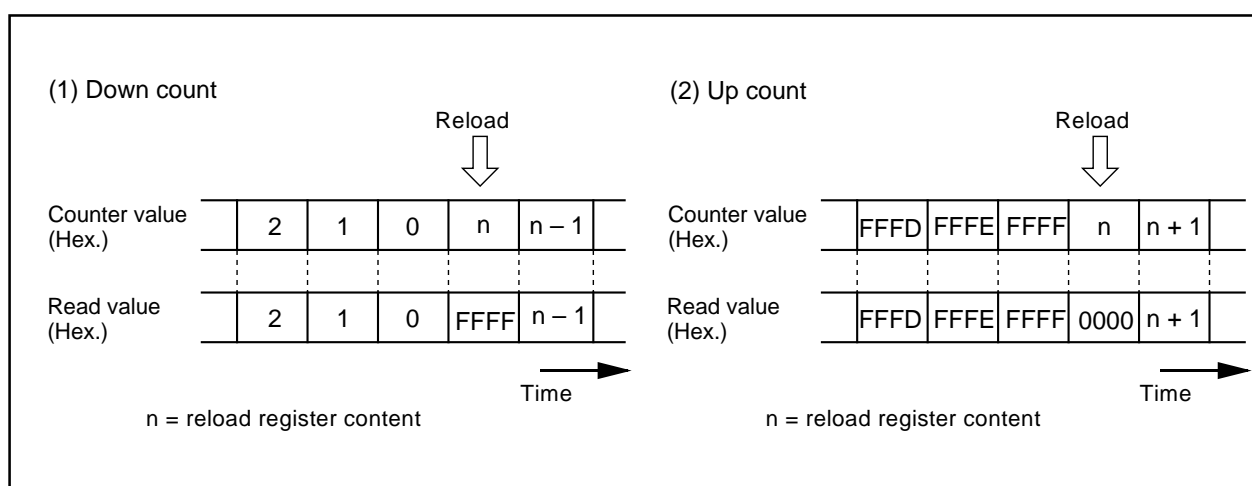

Figure 2.2.29. Reading timer A0 register
- (1) To clear reset, the count start flag is set to "0". Set a value in the timer A0 register, then set the flag to "1".
- (2) Reading the timer A0 register while a count is in progress allows reading, with arbitrary timing, the value of the counter. Reading the timer A0 register with the reload timing shown in Figure 2.2.29 gets "FFFF16" by underflow or "000016" by overflow. Reading the timer A0 register after setting a value in the timer A0 register with a count halted but before the counter starts counting gets a proper value.